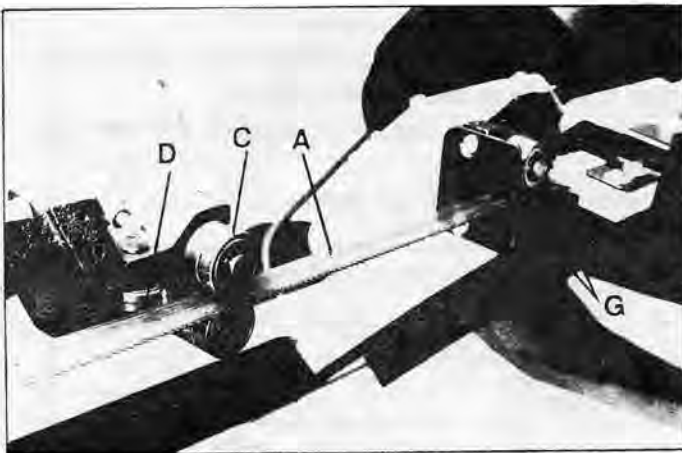

Fig. 1
13. Connect the Electrical Harness to the motor terminal box. The motor should be protected with a time delay fuse or circuit breaker with a rated amperage slightly greater than the full-load amperage of the motor (see Figure 1).